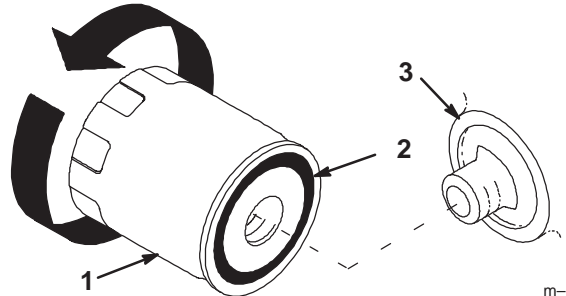

Figure 17
8. Change the oil filter, if necessary (Fig. 17).
2. Remove the old filter and wipe the filter adapter (Fig. 17) gasket surface.
4. Apply a thin coat of clean oil to the rubber gasket on the replacement filter (Fig. 17).
5. Install the replacement oil filter to the filter adapter. Turn the oil filter clockwise until the rubber gasket contacts the filter adapter, then tighten the filter an additional 2/3 to 1 turn (Fig. 17).